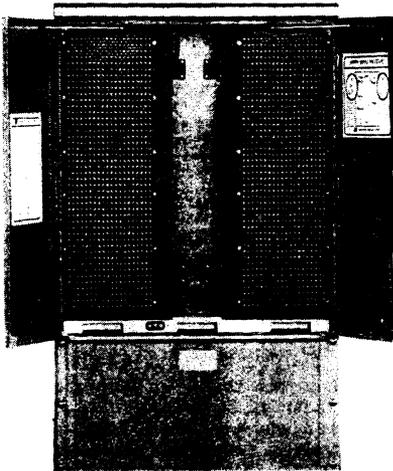

FIGURE 1
1.02 PHYSICAL DESCRIPTION (See Figure 1)